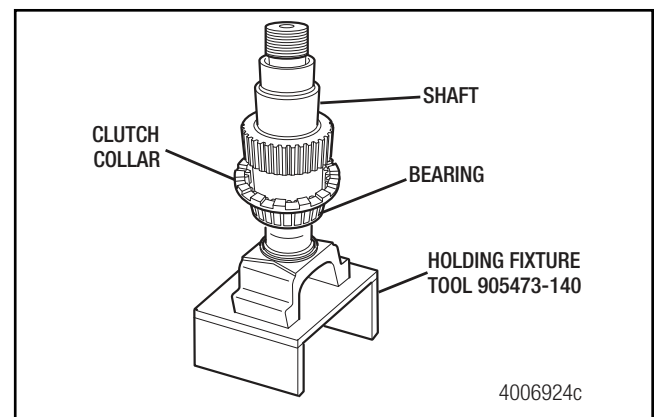

Figure 7.2
4. Install the clutch collar. Figure 7.2.